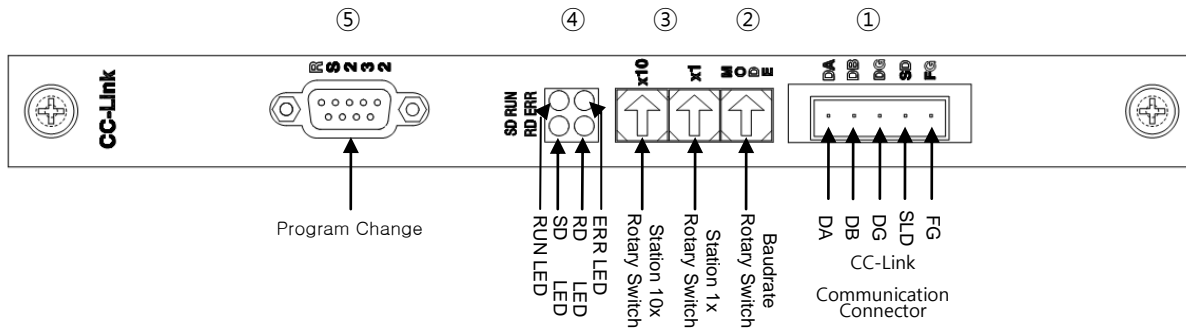

Fig. 3.1 Front View of CC-Link Option Card
The front view of CC-Link Option Board is shown in Fig. 3.1..
CC-Link Option Board, equipped with a total of 4 LEDs, is able to know the CC-Link Adapter status from the outside. Fig. 3.1 ④ shows how it looks like with the following functions.
Use the Station 10x Rotary Switch and Station 1x Rotary Switch in Fig. 3.1 ③ and change into Station Number set in Master to have communication with CC-Link Master. Rotary Switch makes use of a decimal number so you can set a tenth place with 10x Rotary Switch and the first place with 1x Rotary Switch.
Communication speed with CC-Link Master is set by using Baud rate Rotary Switch in Fig.3.1 ②. Rotary Switch uses a decimal number and communication speed for each number is shown in Table 3.3.
This is a STL(Z) 950 5-pin OPEN Connector. It looks like Fig. 3.1 ④ and its cable for use should be CC-Link Ver.1.10 defined in CC-Lin. Its colors are defined as DA(Blue), DB(White), and DG(Yellow), while SLD and FG have no definition of color. SLD means cable Shield and FG means Frame Ground. For further details, refer to 4.2 "How to connect CC_LINK network cable".